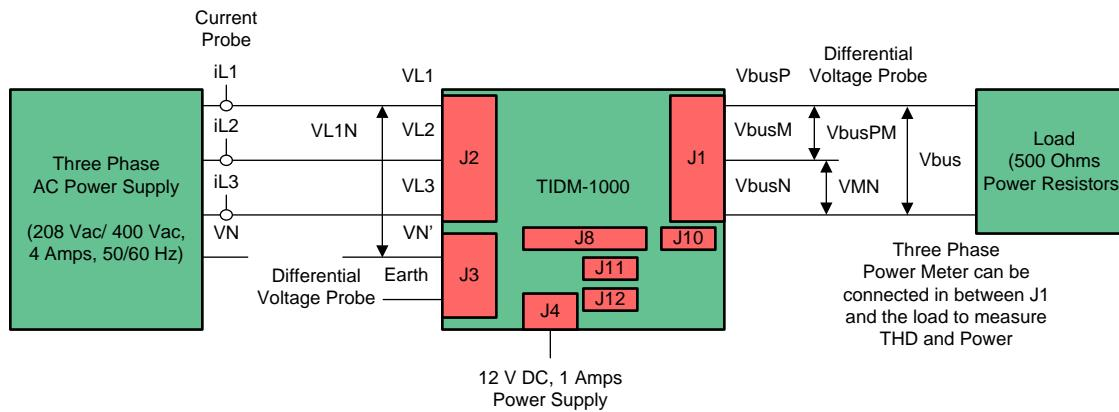

Figure 44. Build Level 4 Hardware Setup Diagram
1. Make sure the hardware is setup, as shown in Figure 44. One major difference from the previous builds is the Neutral is no longer connected to the midpoint of the DC bus capacitor.